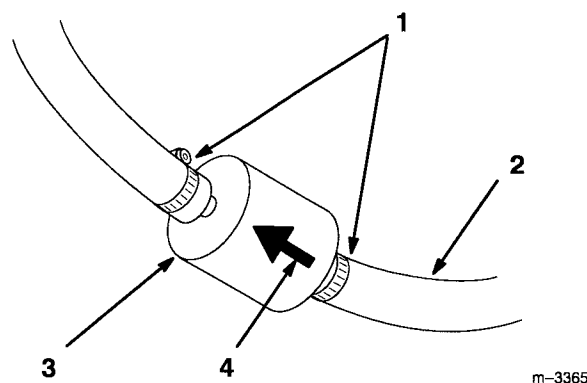

Figure 38
4. Squeeze the ends of the hose clamps together and slide them away from the filter (Fig. 38).